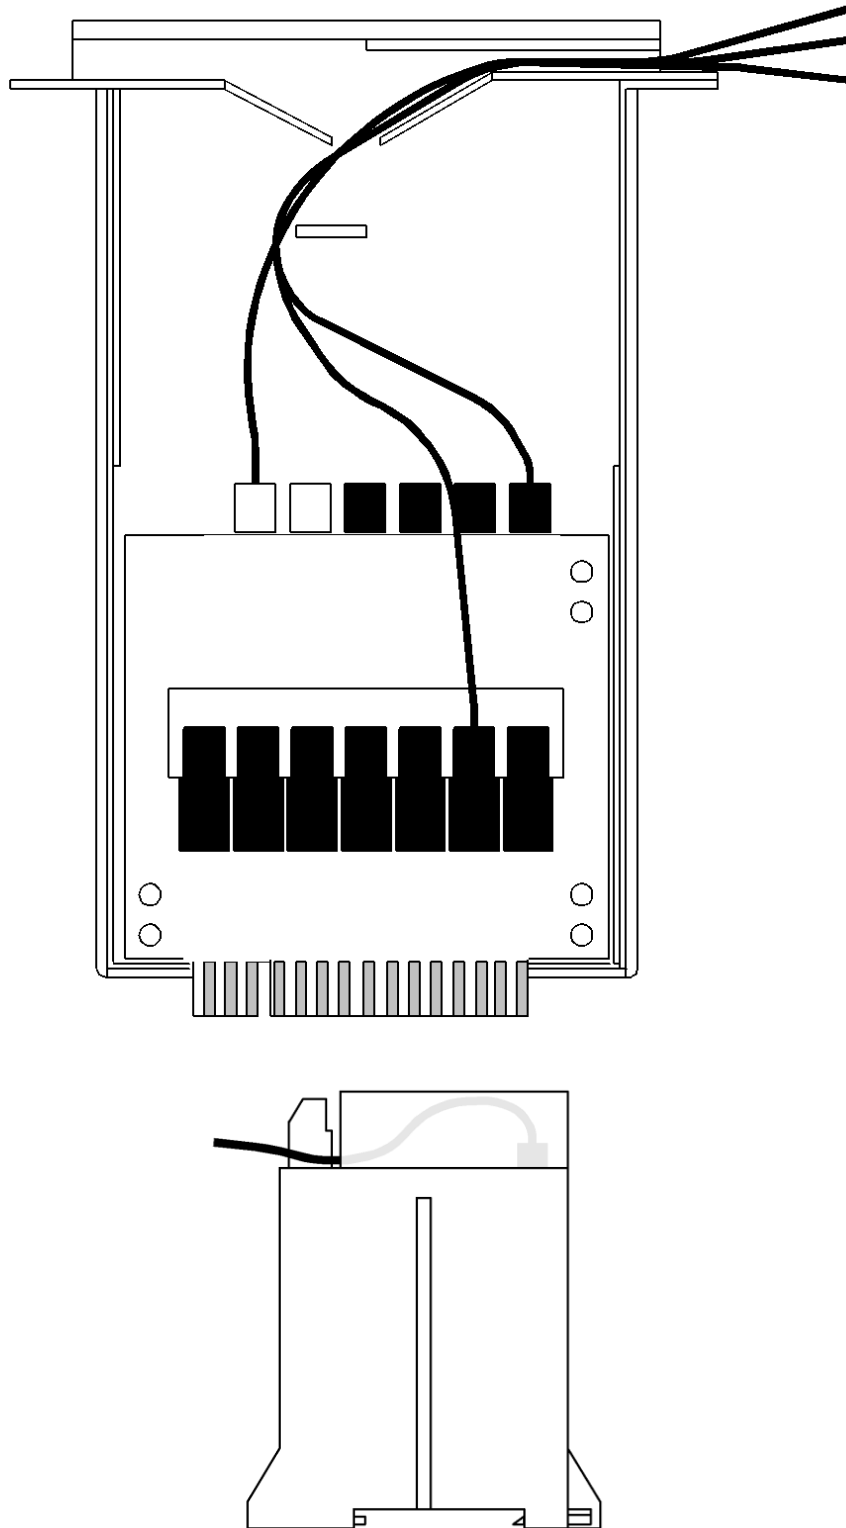

Fig. 4
- Then, replace the board in its original position, put the fibers in the output channels and close the plastic box, guiding the fibers to maintain their positions within each channel and outputting from the front of the hole (See fig. 4).
- Then reposition the mixer cap guiding the fibers to follow the existing guides in the cap, on both sides of the terminals (fig. 4).